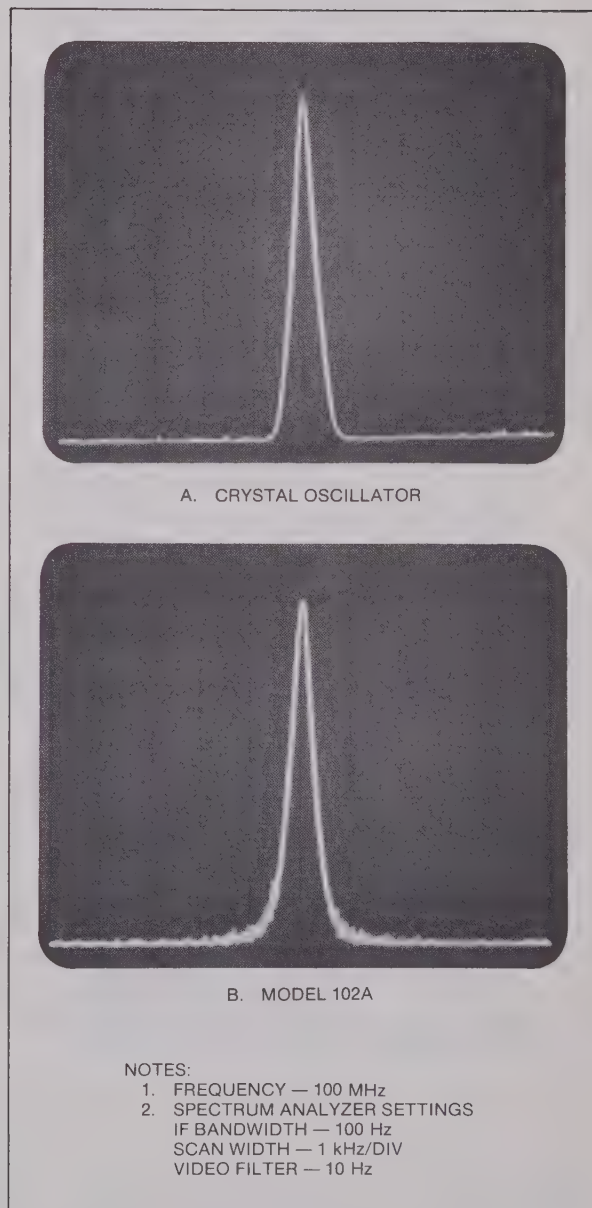

Figure 1-2 Spectrum Comparison, Model 102A and Crystal Oscillator
a. **Spectral Purity.** The spectral purity of the Model 102A is comparable to that of a crystal oscillator. (See Figure 1-2.) The output frequency is derived from an inductively tuned VFO with inherently low microphonism. Appropriate filters are electronically switched into the frequency generating circuits by means of PIN diodes to further suppress spurious frequencies. The suppression of harmonics and other spurious frequencies provides assurance that test results obtained using this instrument will reflect selected test parameters only; erroneous test indications resulting from spurious frequencies are unlikely.